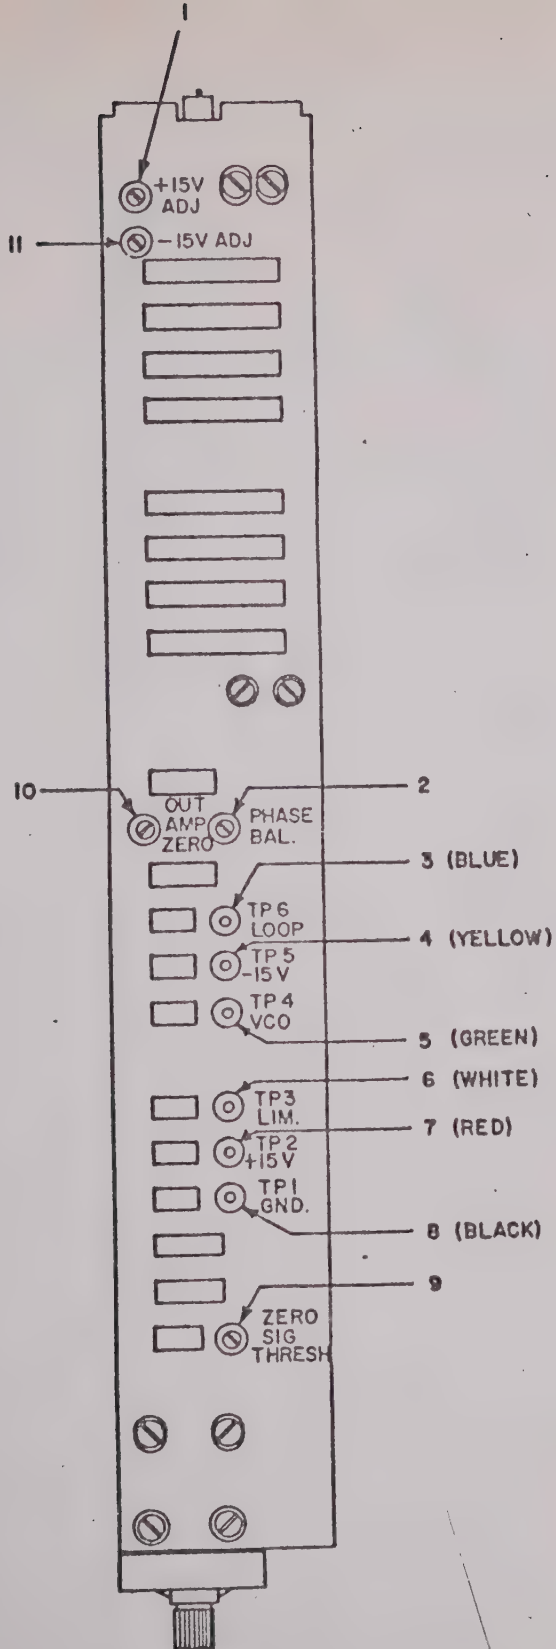
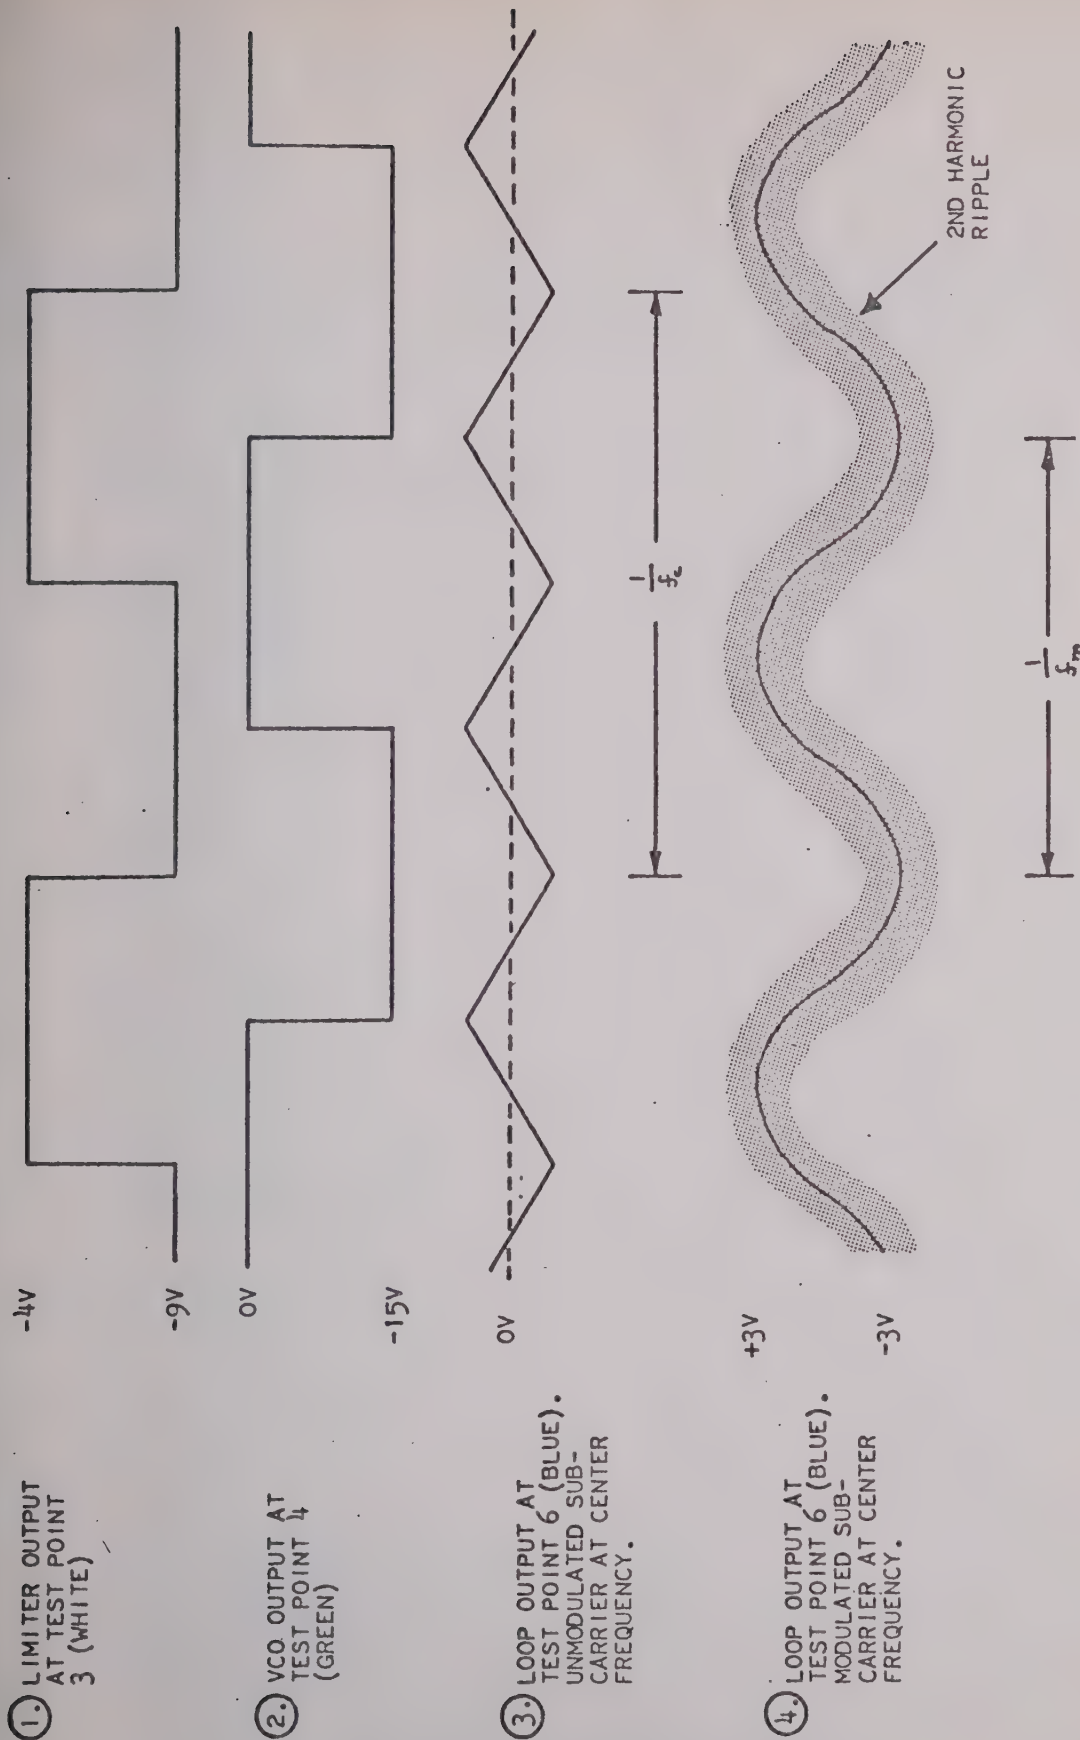

Figure 5-1. Model 210A Discriminator Chassis,
Figure 5-2. Waveforms at Test Points
- b. Using oscilloscope and precision DC voltmeter, check the ± 15 -volt regulator voltage at test points TP2 (+15V, red) and TP5 (-15V, yellow). (See Figure 5-1.) These voltages should be within ± 75 millivolts. If necessary, adjust supply with +15V ADJ and -15V ADJ controls. The 120 CPS ripple at the test points should not exceed 5 millivolts peak-to-peak during normal operation. The appropriate power supply manual should be consulted if the unit is found to be defective.
- c. Using oscilloscope and AC voltmeter, monitor limiter output at test point TP3 LIM. (See Figure 5-1.) Adjust input-signal amplitude until limiter output signal is a maximum-amplitude sinewave with no limiting action (approximately 1 volt RMS). Limiter gain should be approximately 2000 with -4-Db frequencies of 50 CPS and 500 Kc.
- d. To check limiting, vary input-signal amplitude between 5 millivolts RMS and 5 volts RMS. The limiter output signal should vary from a clipped sinewave to a squarewave of approximately 5 volts peak-to-peak amplitude. (See waveform 1, Figure 5-2.)
- a. Apply an unmodulated center-frequency input signal to the discriminator. The limiter, VCO, and loop-amplifier output voltages and waveforms at test points TP3 (white), TP4 (green), and TP6 (blue) should be as shown in waveforms 1, 2, and 3 of Figure 5-2. The average DC voltage at the loop-amplifier output test point (TP6) should be zero with the input signal frequency at bandcenter by adjusting BALANCE control on the Model 229A. This voltage should be +3 volts with input signal at upper bandedge and -3 volts at lower bandedge.
- b. With an unmodulated center-frequency input signal to discriminator, limiter output signal monitored at TP3, and VCO output signal monitored at TP4 should be squarewaves displaced in phase by 90 degrees, as shown in waveforms 1 and 2 of Figure 5-2. The phase displacement can be measured accurately by using the dual-trace plug-in and calibrated delayed-sweep controls of the oscilloscope or the start and stop inputs of the events counter. With BALANCE control adjusted for zero volt at TP6, the phase displacement between limiter and VCO voltage signals should be 90 ± 2 degrees. If phase displacement is not within these limits, adjust PHASE BAL control. With input-signal frequency at bandedges, phase displacement should be 90 ± 4 degrees.
- c. Apply a modulated input signal to the discriminator from the switchable VCO. The waveform at loop amplifier output TP6 should be as shown in waveform 4 of Figure 5-2. The loop amplifier waveform is modulation signal with superimposed ripple at second harmonic of subcarrier frequency. The second-harmonic ripple frequency is attenuated by discriminator output filter to provide a distortionless data-output signal.
Make all AC and DC voltage measurements with signal ground as reference (the three ground test points on the front panel of the Model 223G Power Supply and the discriminator ground test point, TP1, are all signal ground). Test points and adjustments are located at the top of the Model 210A Discriminator Chassis as shown in Figure 5-1 and defined in tabular form in Table 5-1. Access to the test points can be achieved by the use of two Model 222B Test Adapters. Test-point waveforms and voltages are given in Figure 5-2 and Table 5-2.